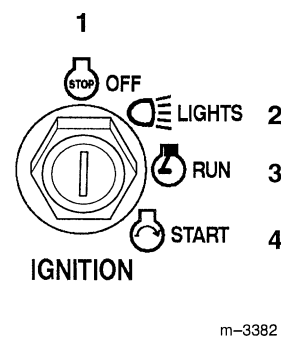

Figure 6
8. Turn the ignition key clockwise and hold it in the “START” position (Fig. 6). When the engine starts, release the key.
2. Turn the ignition key to “OFF” (Fig. 6).